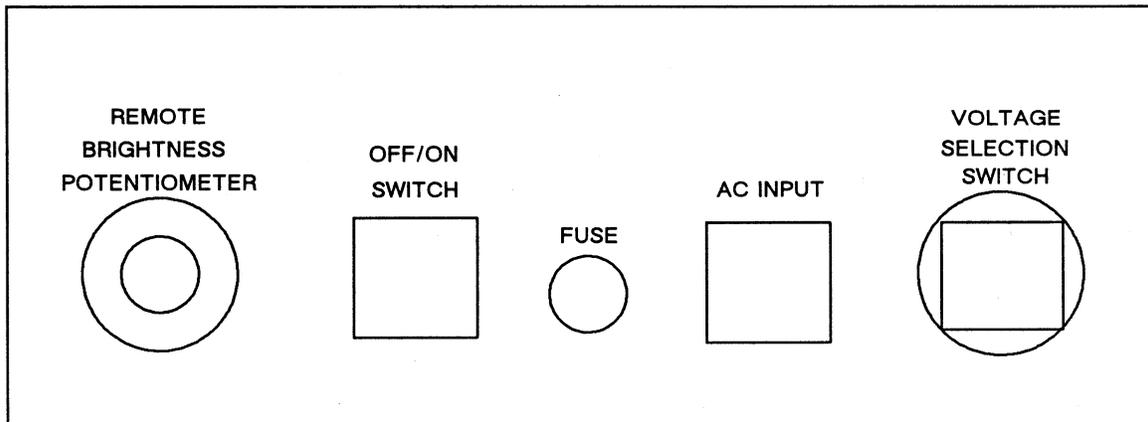

Figure 2-3. Model 30M Voltage Selection through Switch Setting
1. As you face the rear of the monitor, locate the (possibly red) switch on the right side of the monitor chassis. See Figure 2-3.
2. Pull out the AC power cord from the AC input receptacle on the rear I/O panel. See Figure 2-3 above.